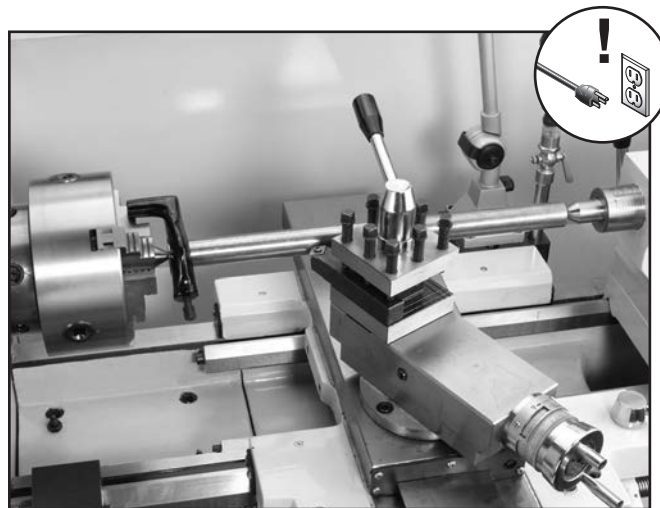

Figure 57. Example of stock mounted between centers.
5. Seat center firmly into quill by rotating quill handwheel clockwise to apply pressure against workpiece (see **Figure 57**).